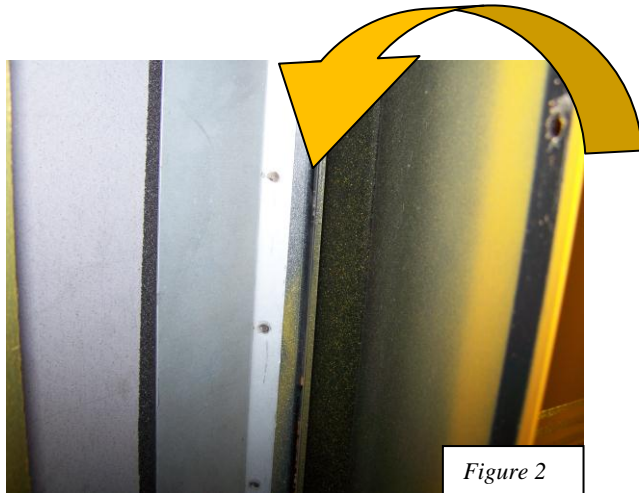

Figure 2
3. There may be a gap between the cowl panel and post. *Figure 2*